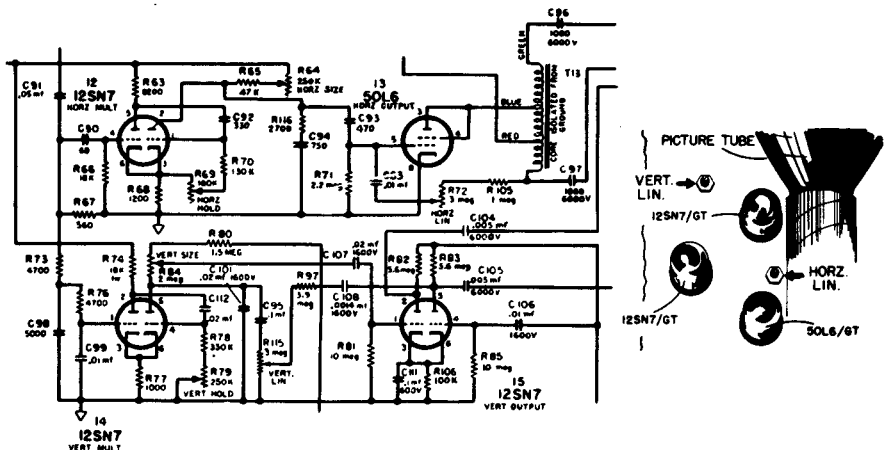

Fig. 12 — Belmont-Raytheon
**Improved horizontal and vertical linearity (see Fig. 12).**